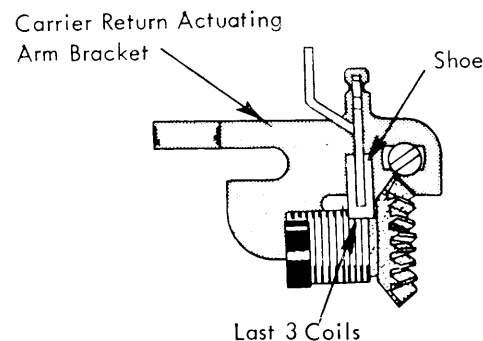

FIGURE 146. Carrier Return Shoe
4. Carrier Return Shoe - Adjust the carrier return actuating arm bracket left or right so that the carrier return shoe overlaps the last 3 coils of the clutch spring. Covering the last 3 coils insures that all the coils of the spring will be used in the clutch operation (Fig. 146).